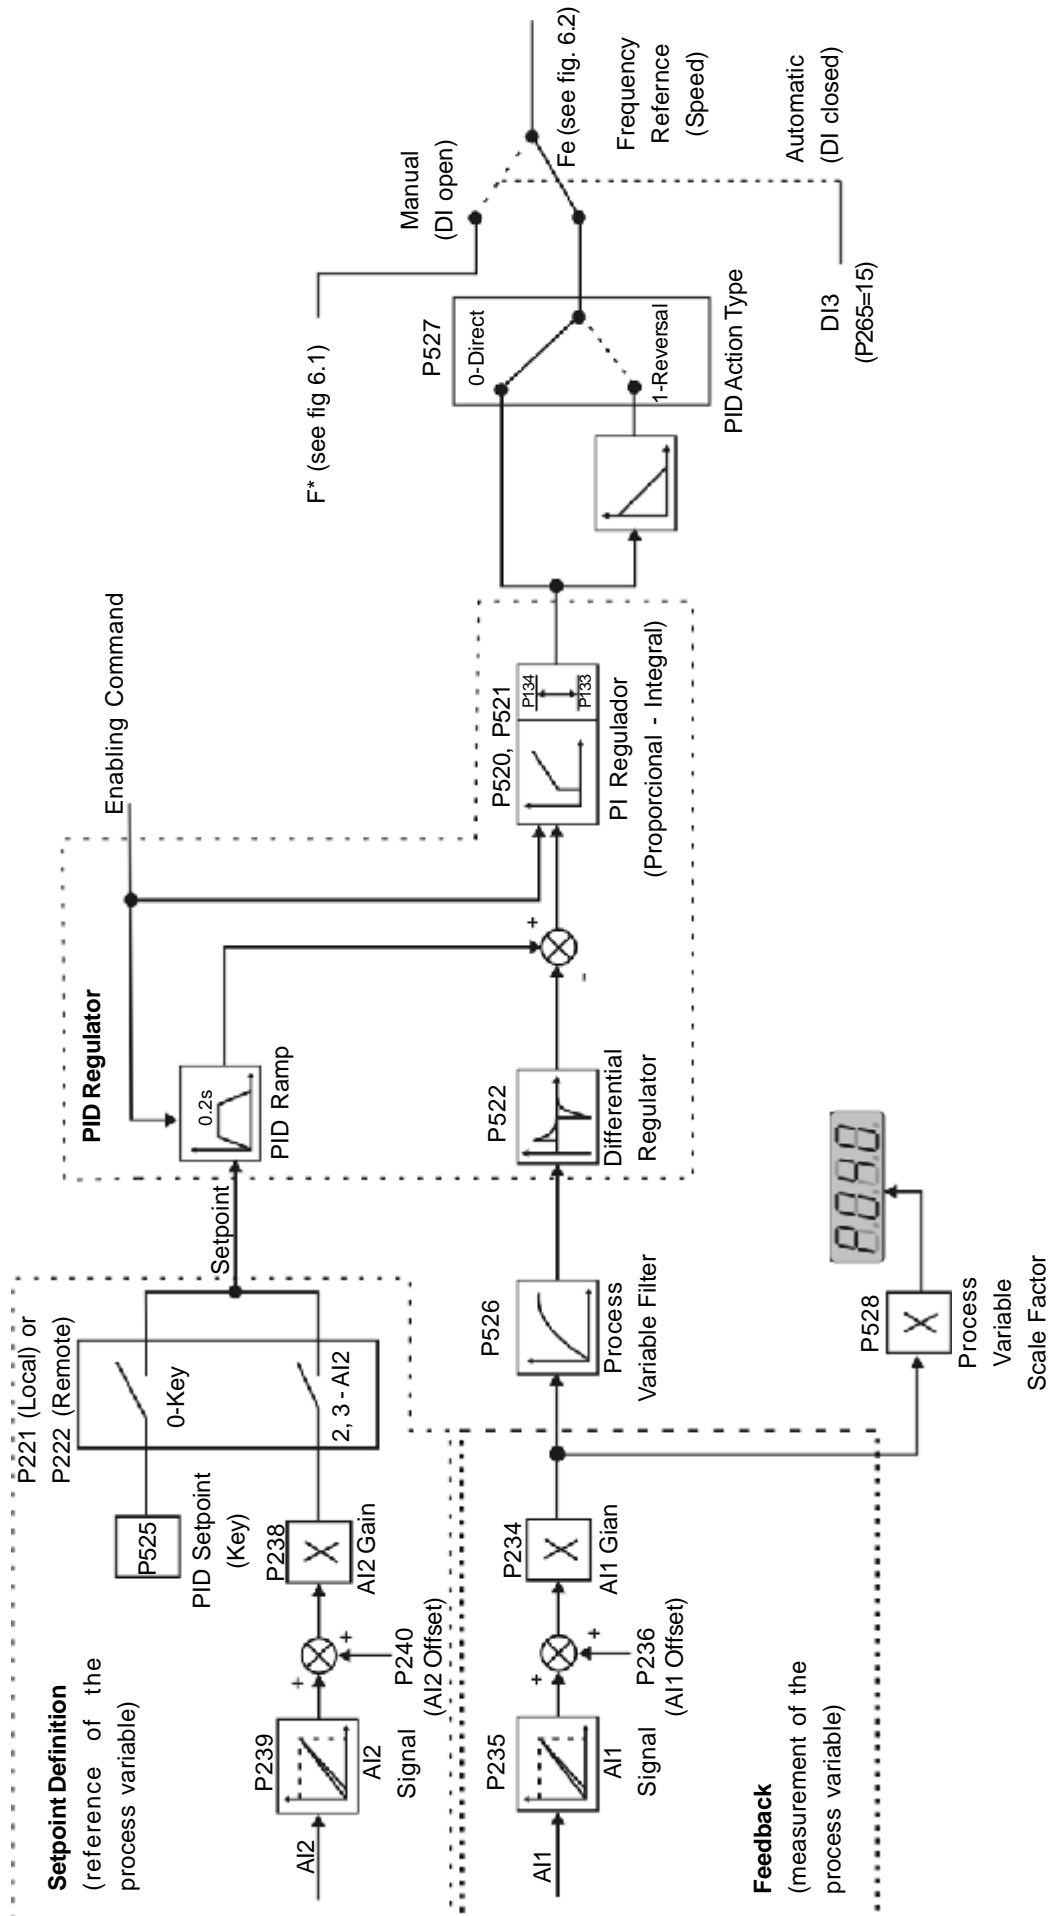

Figure 6.25 - Block diagram of the PID regulator function
- ☑ Figure 6.25 shows the block diagram of the PID regulator.